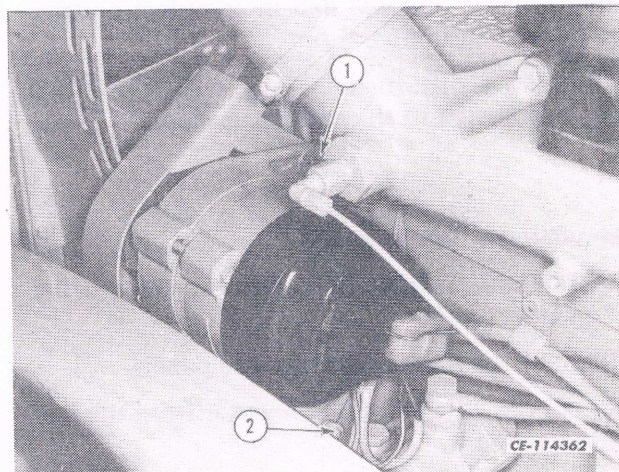

Fig. 11. Alternator Belt Adjusting Points
Alternator Belt (Fig. 11)
Removing the Belt (Fig. 11)
2. Support the alternator, place belt in the pulley groove, install the shield and the alternator mounting hardware (1 and 2, Fig. 11).